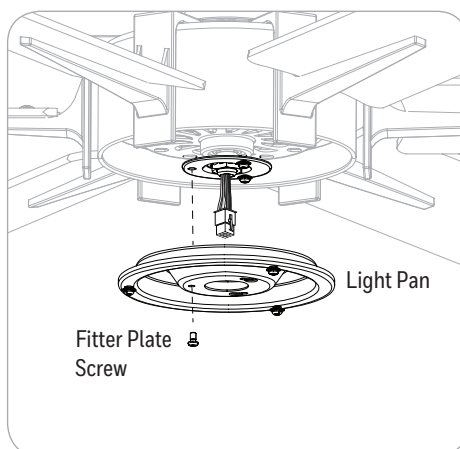

Figure 2.14
14. Loosen two and completely remove one of the fitter plate screws from the fitter plate. Then, lift the light pan up. Align the screw holes of the light pan with the loosened fitter plate screws and turn in a clockwise direction. Replace previously removed fitter plate screw, then tighten all screws. **Note:** Feed the 9-pin connector through the center hole in the light pan (Figure 2.14).